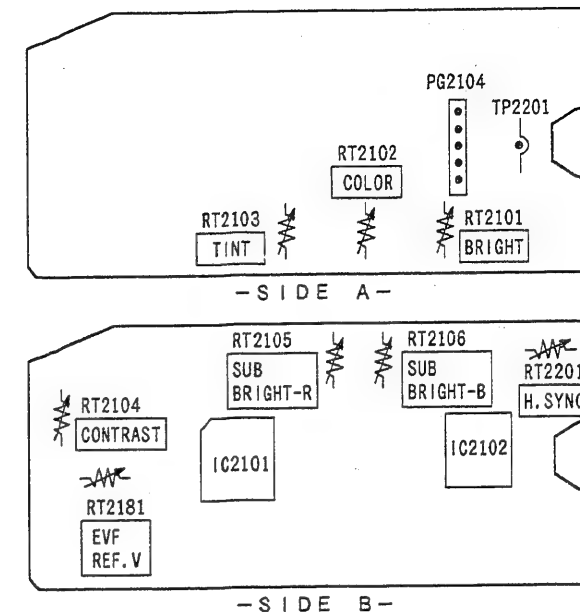

Fig. 2-25 Color EVF (CRE) Circuit Board
(1) Output Voltage Adjustment (Fig. 2-25)
(2) H.Drive Frequency Adjustment (Fig. 2-25)
(3) Brightness, Contrast Adjustment (Fig. 2-25)
(4) Sub-Bright Adjustment (Fig. 2-25)
(5) Chroma Gain and Color Phase Adjustment (Fig. 2-25)